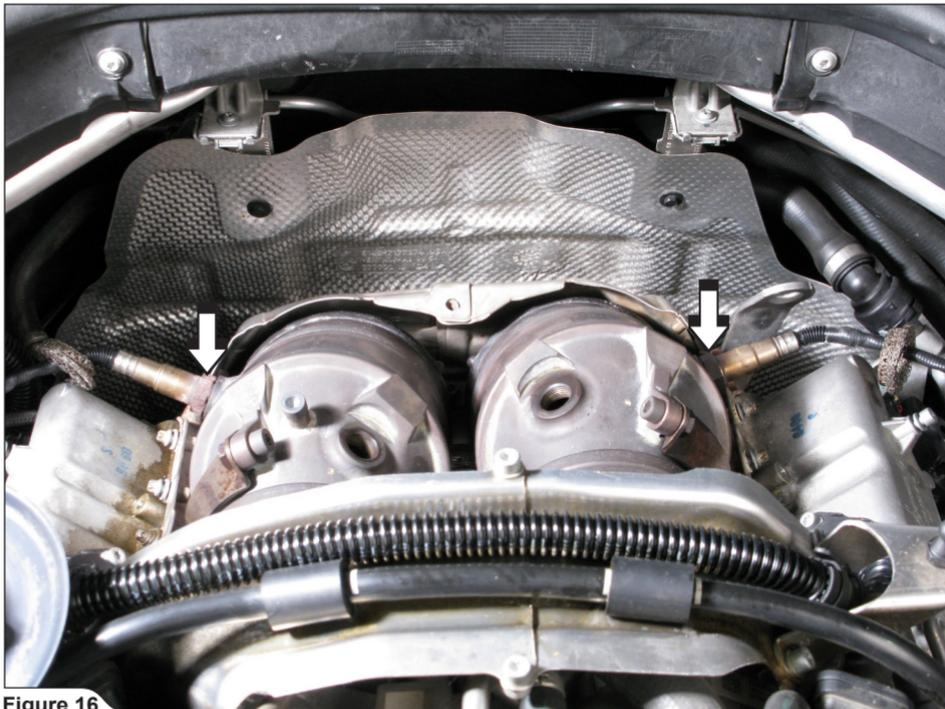

Figure 16
16. For optional Down Pipes only: unscrew and remove rear lambda sensors out of the down pipes. (Figure 16).